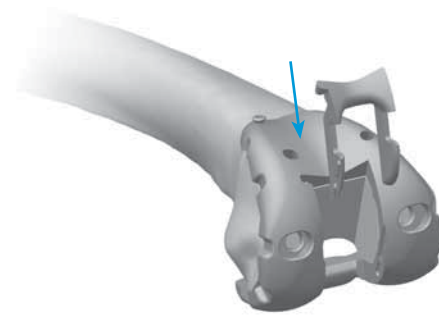

Fig. 80
- If a screw was used to provide adjunct fixation, remove the screw and the PS Box Cut Guide. By hand, insert the correct-sized PS Box Provisional into the PS Femoral Provisional to assure that adequate bone has been removed for the implant AND for proper patella trialing. Separate left and right PS Box Provisionals exist for sizes 1-2, 3-5, 6-9, and 10-12 PS Femoral Provisionals (Fig. 80). The Constrained Posterior Stabilized (CPS) cut slot must be used if a CPS articular surface is selected. The CPS cut slot may also be used for PS box resections. Additional information for this product may be found in the Constrained Posterior Stabilized (CPS) Surgical Technique (97-5026-072-00).